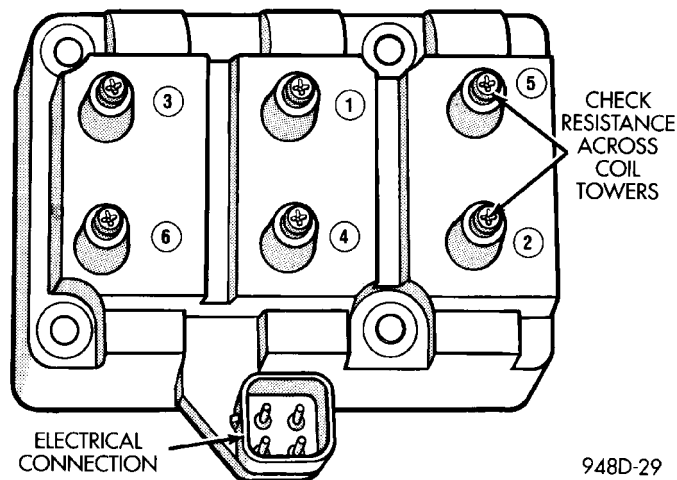

Fig. 21 Checking Ignition Coil Secondary Resistance
(3) Remove ignition cables from the secondary towers of the coil. Measure the secondary resistance of the coil between the towers of each individual coil (Fig. 21). Secondary resistance should be 7,000 to 15,800 ohms. Replace the coil if resistance is not within tolerance.